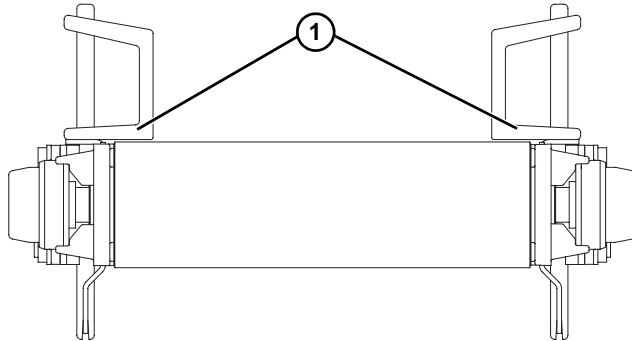

Figure 24
For UHMW guides, install guides with horizontal side (Figure 24, item 1) down.